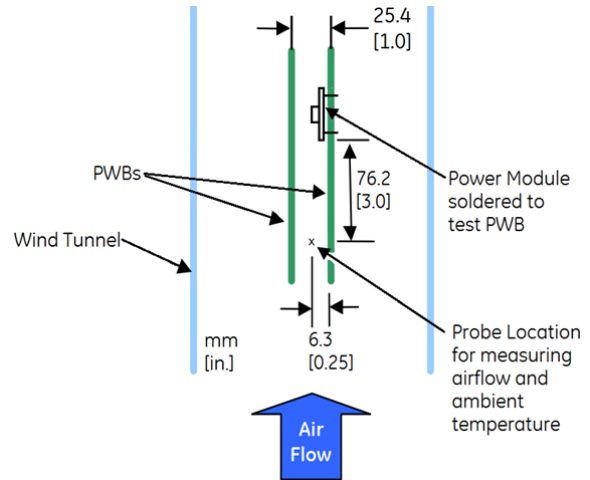

Figure 17. Thermal derating test setup.
The JNCW016A0R module provides a non-latching over temperature protection. A temperature sensor monitors the operating temperature of the converter. If the reference temperature,  $T_{ref1}$ ,  $T_{ref2}$  (see Figure 17) exceeds a threshold of 103 °C (typical), the converter will shut down and disable the output. When the base plate temperature has decreased by approximately 20 °C the converter will automatically restart. The module can be restarted by cycling the dc input power for at least one second or by toggling the remote on/off signal for at least one second.